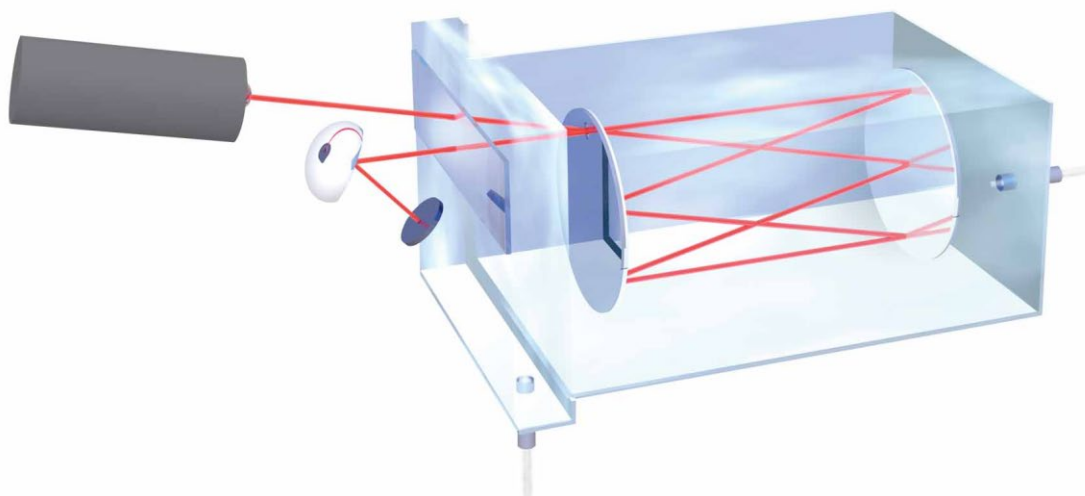

Figure 92: Schematic of Moisture Cell
The NanoTrace Moisture Analyzer uses infrared (IR) absorption as its detection method. IR absorption is a subset of the overall field of spectroscopy, which concerns the interaction of light and matter. A conceptual drawing of the type of moisture cell used in the analyzer (called a Herriott cell for physicist Donald Herriott) is shown in **Figure 92**. The cell includes a laser light source, an enclosed cavity through which the sample gas passes, a system of mirrors and a light sensor.